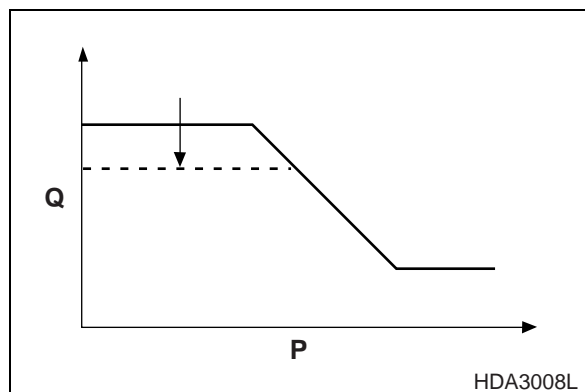

Figure 17
The adjusting screw on the opposite side of the regulator (3) affects the delivery rate (Q) of the pump. Tightening the adjusting screw decreases the maximum cut flow (as shown in Figure 17) while backing out the screw increases cut flow delivery rate.